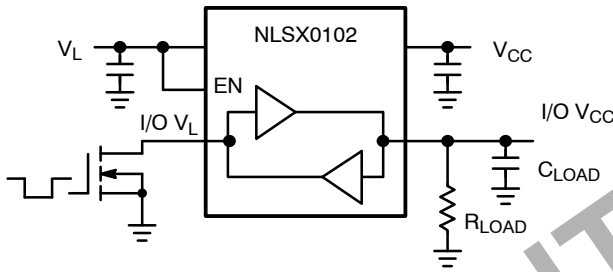

Figure 4. Open-Drain Driving I/O  $V_L$
**Timing Characteristics – Open Drain Driving Configuration**(I/O test circuits of Figures 4, 5 and 7,  $C_{LOAD} = 15\text{ pF}$ , driver output impedance  $\leq 50\ \Omega$ ,  $R_{LOAD} = 1\text{ M}\Omega$ , unless otherwise specified)
(I/O test circuits of Figures 4, 5 and 7,  $C_{LOAD} = 15 \text{ pF}$ , driver output impedance  $\leq 50 \Omega$ ,  $R_{LOAD} = 1 \text{ M}\Omega$ , unless otherwise specified)